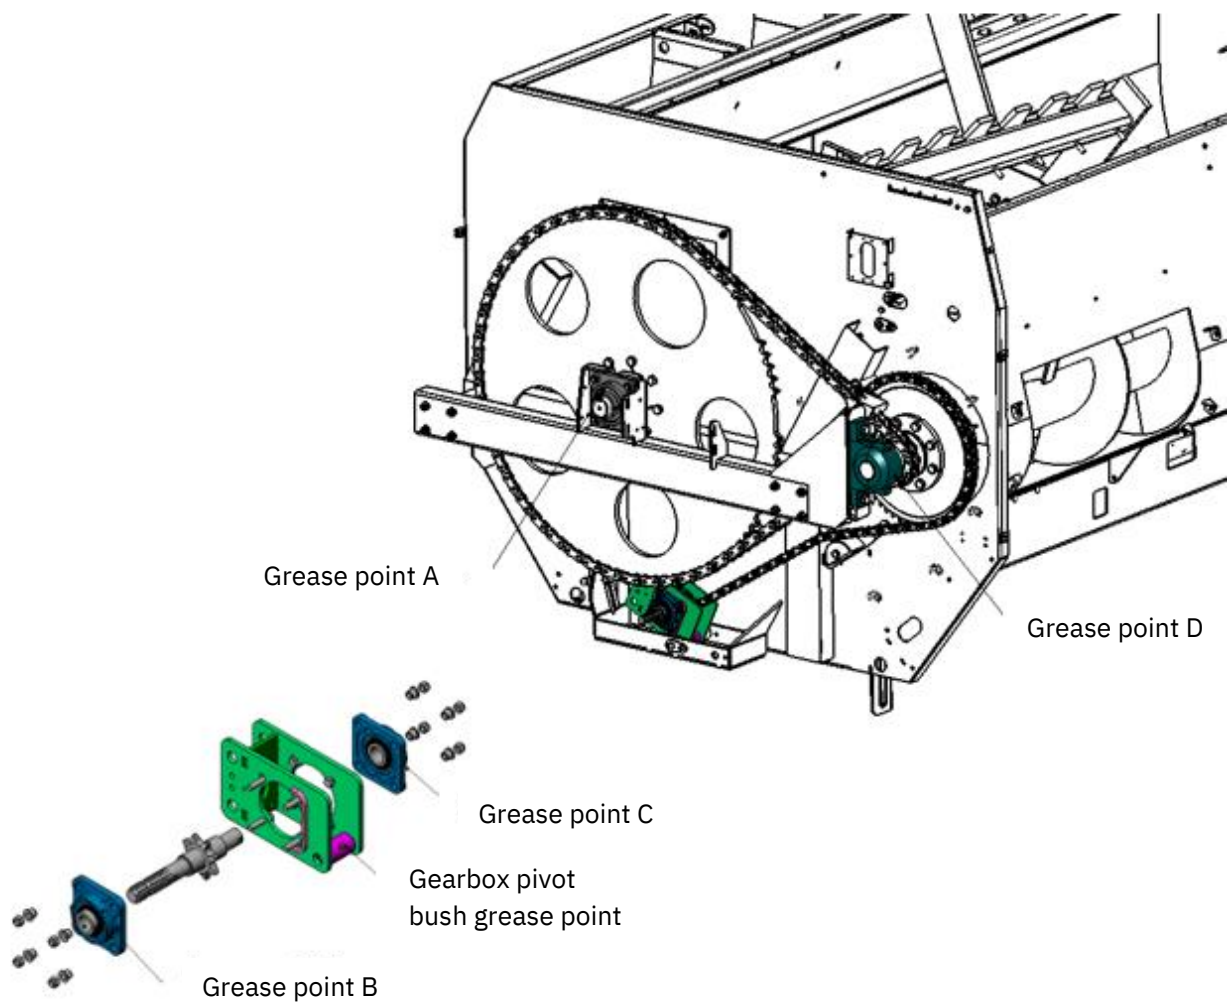

Figure 5: Front grease points
- The main rotor bearing at the front of the KEENAN MechFiber (A, Figure 5).
- Two main bearings on the front and rear of the input drive shaft (B and C, Figure 5).
- The auger bearing at the front of the KEENAN MechFiber+ (D, Figure 5)